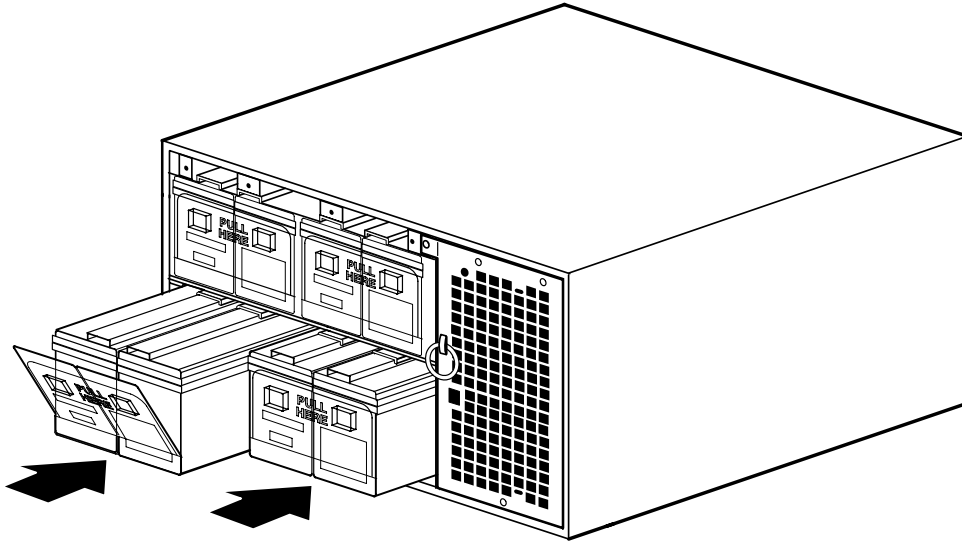

Figure 27. Installing the UPS Battery Trays
3. Slide the battery trays into the cabinet (see Figure 27). Verify each tray is properly aligned before sliding the tray in.